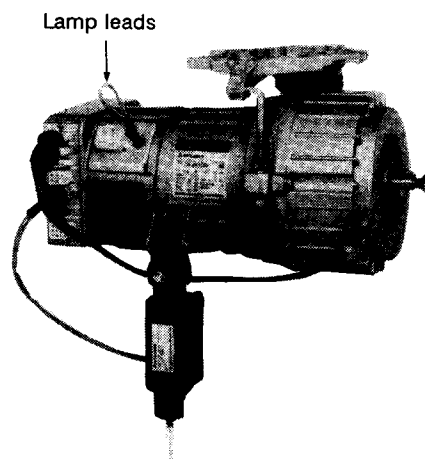
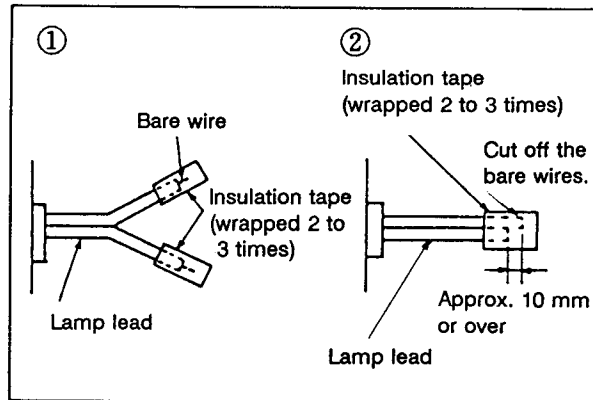

Fig. 26 Lamp Leads
Fig. 27 Protection of Lamp Leads
- 3) When the lamp is not used, insulate each of 2 lead wires. (See Fig. 26) When the insulation tube, which was set at shipment from factory is removed, insulate the ends of lamp lead wires to prevent shortcircuit with 2 wires as shown by ① or ② of Fig. 27.